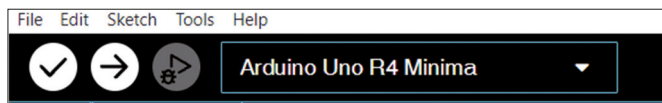

Figure 2.4: Select: *Arduino Uno R4 Minima*.
- You should be able to select the Arduino Uno R4 board from the board selector at the top left of the screen (Figure 2.4). Connect your Arduino Uno R4 Minima (or WiFi) to your PC via a USB-C cable.